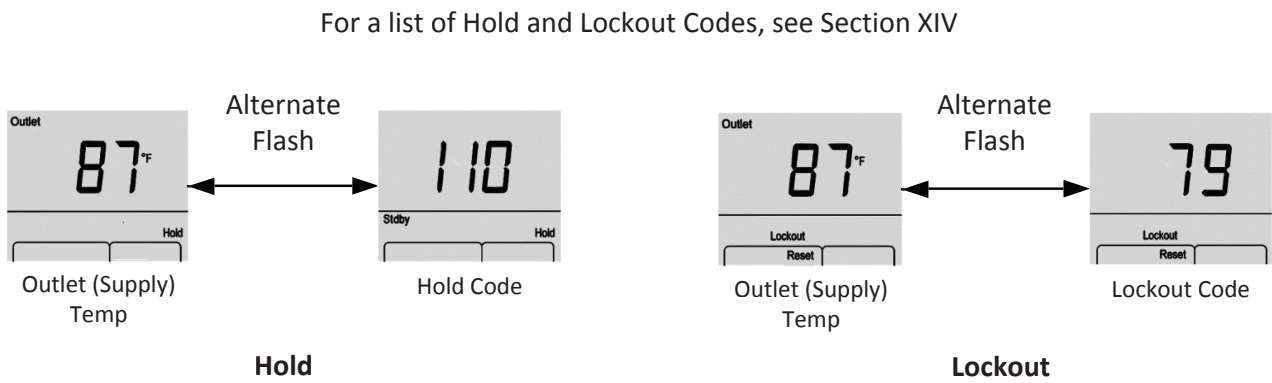

FIGURE 11.2c: HOME SCREEN WITH ACTIVE FAULT
- 13) If there is a problem that appears before the first trial for ignition, or if the boiler fails to light after six tries for ignition, the display will alternately flash the outlet temperature and a “hold code” (Fig. 11.2c). This code is 110 in the case of failure to light after 5 retries for ignition. For more information, and a complete list of Hold codes, see Part XIV of this manual.